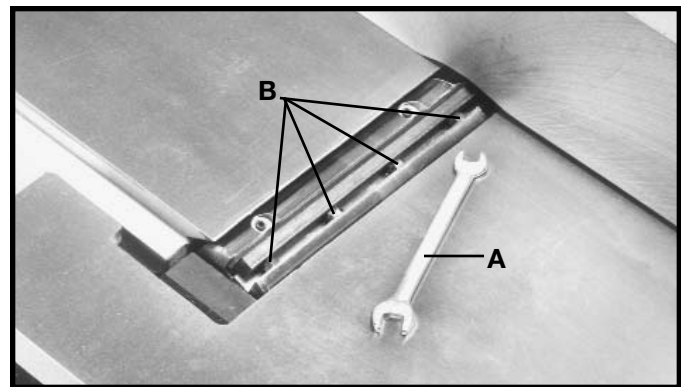

Fig. 56
2. Using wrench (A) Fig. 56, slightly loosen the four locking screws (B) in each knife slot by turning the screws (B) clockwise.
3. Loosen screws (B) Fig. 56, further and remove knife and knife locking bar.
⚠ WARNING **CARE MUST BE TAKEN WHEN INSERTING THE KNIVES AS THE CUTTING EDGES ARE VERY SHARP.** Push the knife down as far as possible and snug up the screws (B) Fig. 56, by turning each screw counterclockwise just enough to hold the knife in position. Replace the remaining two knives in the same manner.